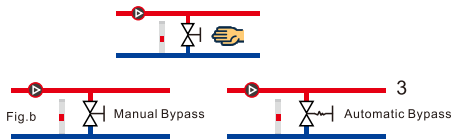

Fig. 10
8.2.2 Components in the system Bypass valve; Flow meter A (as shown in Figure a). When all valves are closed, it is necessary to ensure the minimum flow rate. The setting of the pump depends on the type of bypass valve, namely manual bypass valve or temperature controlled bypass valve (as shown in Fig. 10).